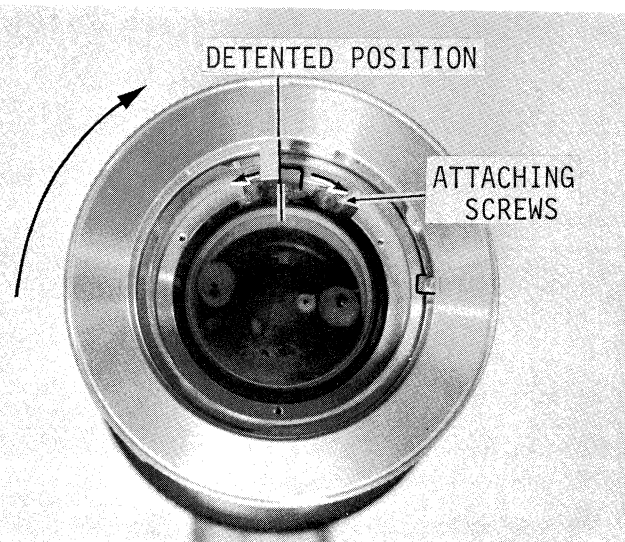

Fig. 67
13.1.5 If there is a change in diaphragm opening in 13.1.4, Loosen the two screws and the setscrew attaching Diaphragm Coupling Plate (152) and move it until it just contacts the Coupling Plate Positioning Arm of the Tool. Tighten the attaching screws and the setscrews and replace the F/Stop Setting Ring (Fig. 67).